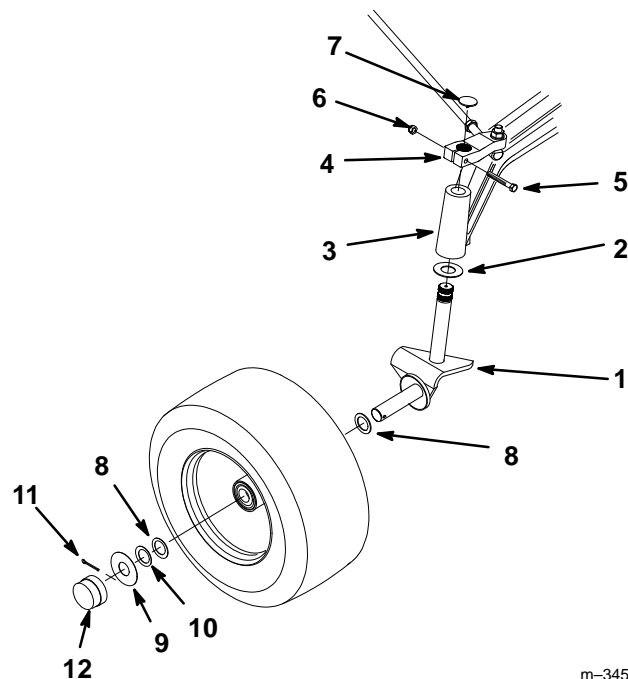

Figure 4
3. Install a 1.56" O.D. x .06" thick unplated thrust washer onto the splined shaft of the R.H. wheel spindle (Fig. 4).
4. Install the splined end of the R.H. spindle through the R.H. end of the front axle and into the steering arm (Fig. 4).
5. Secure the spindle shaft to the steering arm with a 5/16"-18 x 2.25" bolt and 5/16" nut (Fig. 4). Torque the nut to 230 ± 25 in-lbs.
6. Insert a 1.50" O.D x .05" thick plated wheel washer onto the R.H. spindle (Fig. 4).
7. Install a front wheel onto the R.H. spindle with the valve stem facing inward (Fig. 4).
8. Insert another 1.50" O.D x .05" thick plated wheel washer onto the R.H. spindle (Fig. 4).
9. Install a 2.50" O.D x .05" thick hub cap washer onto the spindle. Now insert a .156 x 1.50" long cotter pin into the hole in the spindle (Fig. 4).
12. Install a hubcap onto the hubcap washer until it snaps in place (Fig. 4).
14. Insert a spindle cap into the steering arm (Fig. 4).